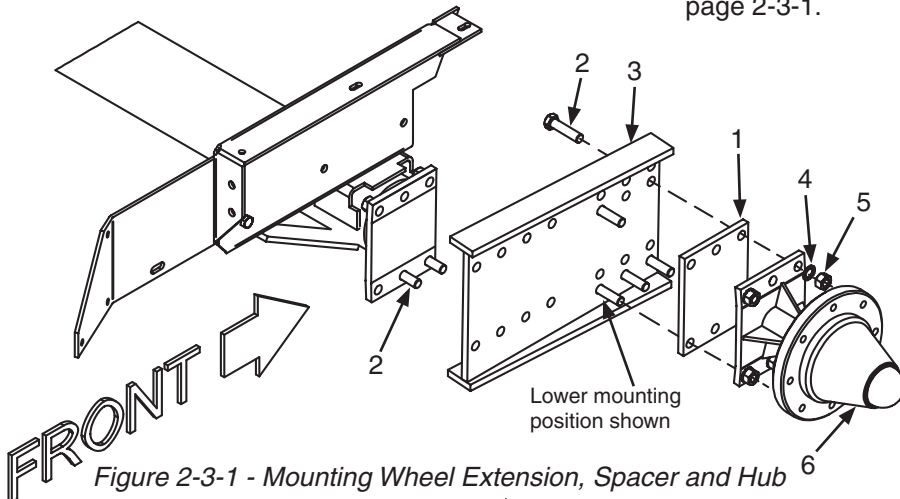

Figure 2-3-1 - Mounting Wheel Extension, Spacer and Hub
A. (See Figure 2-3-1) Place (2) Item 2 Bolts through the axle. Place (5) Item 2 Bolts onto Item 3, Wheel Extension. Place (1) Item 1, Spacer Plate and (1) Item 6, Hub on to the wheel extension. Torque all nuts and bolts as per torque chart on page 2-3-1.